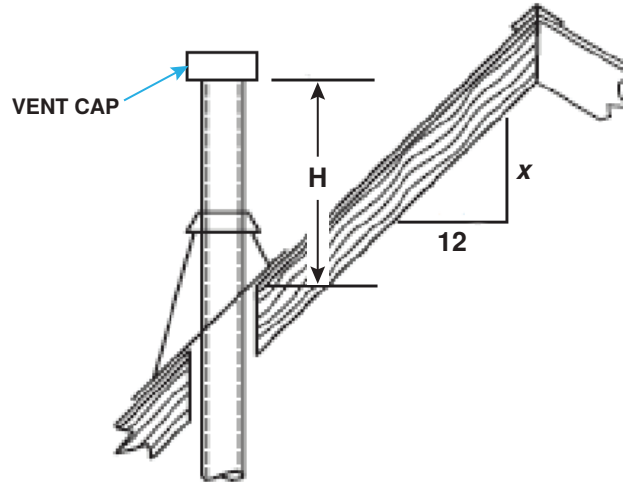

Figure 12. Double-Wall Vertical Vent Height Based on Roof Pitch
- Vent is <8 feet (<2.44 meters) horizontally from any vertical wall or obstruction:** terminate the vent in accordance with Figure 12 and Table 12.
Variable x (See Figure 12) = Roof Pitch Numerator (Inches)*
Dimension H (See Figure 12) = Minimum Height to Lowest Discharge Opening (Feet (Meters))